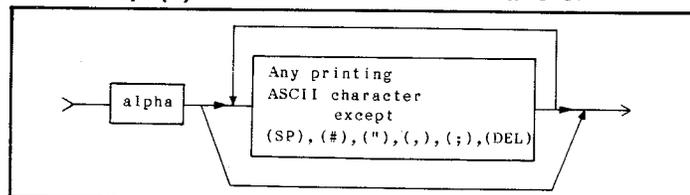

Figure 3-130. Character Header
- 3) **HR3 (Character Header)** Figure 3-130 shows the syntax diagram for HR3. A character header is a sequence of one or more alpha characters. For the 4194A, one of the following cases occurs.